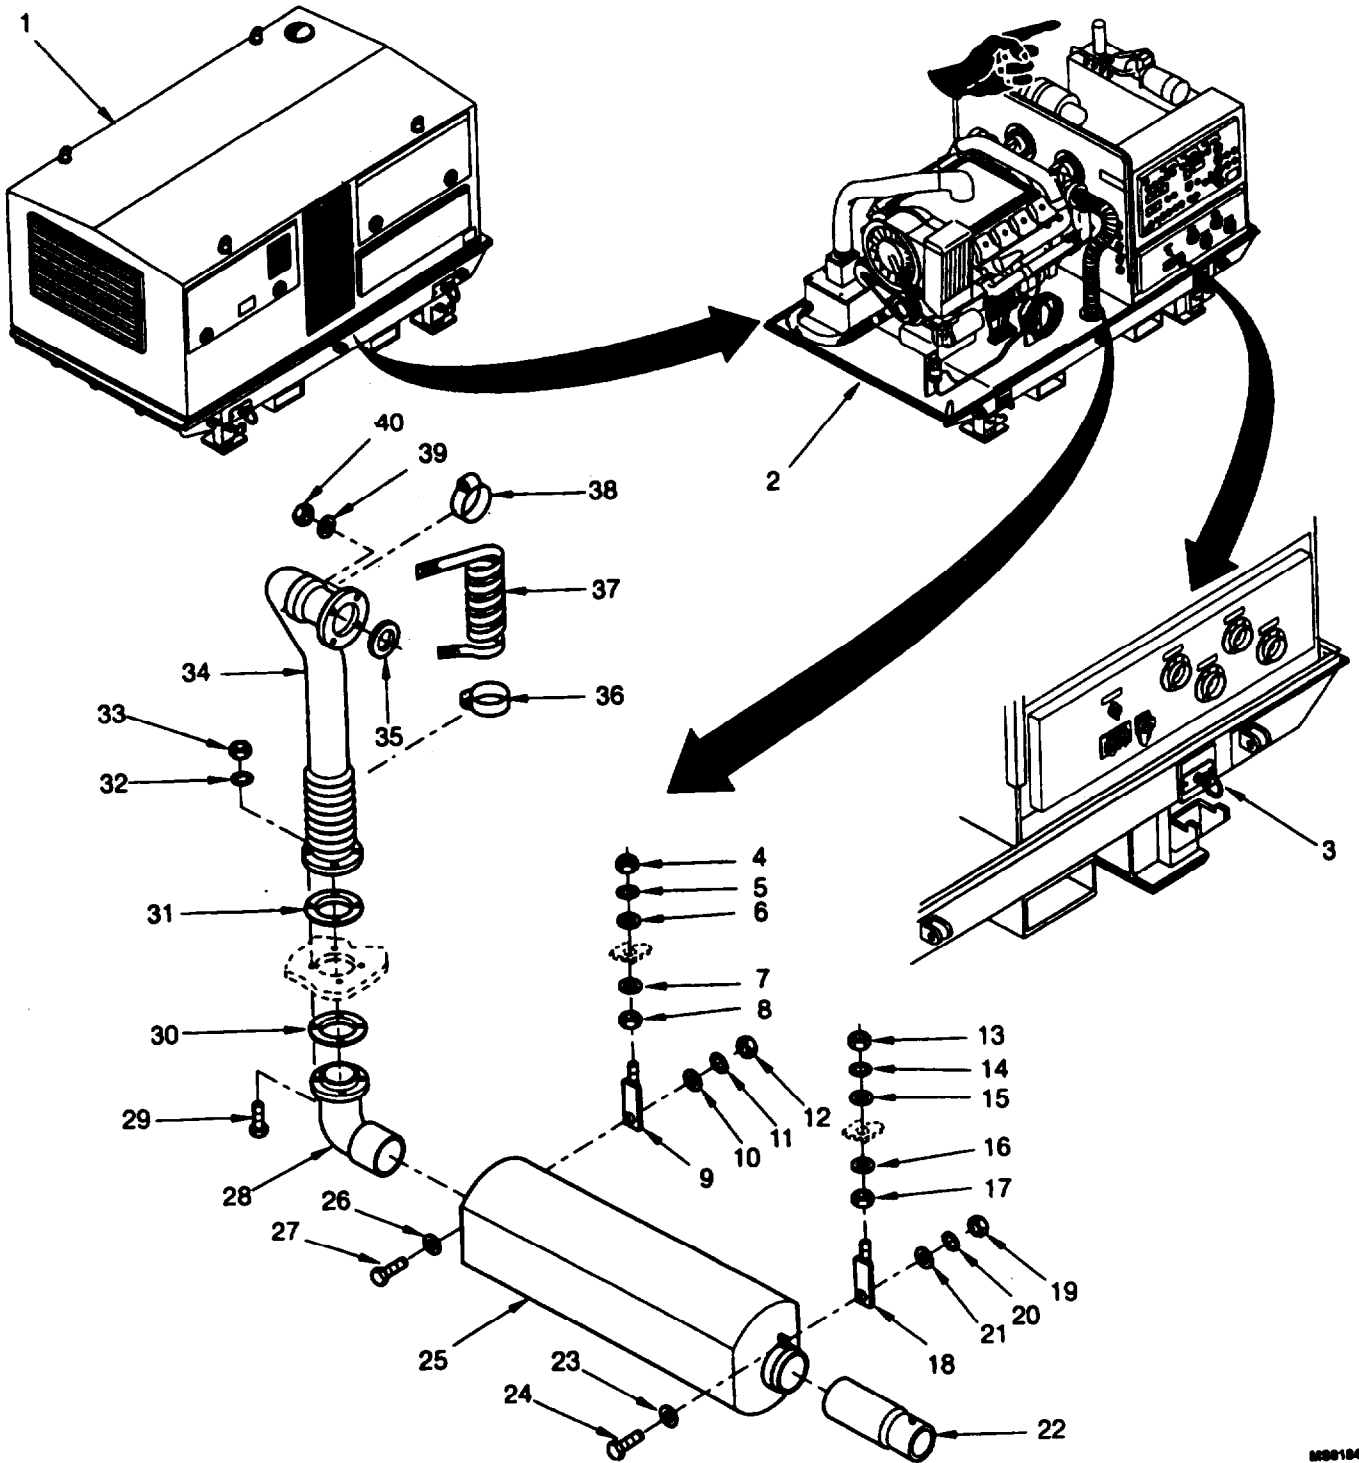

Figure 4-63. Silencer Assembly, Left Side Maintenance.
1. Remove unit hood assembly (1, figure 4-63) as instructed in paragraph 4.14.